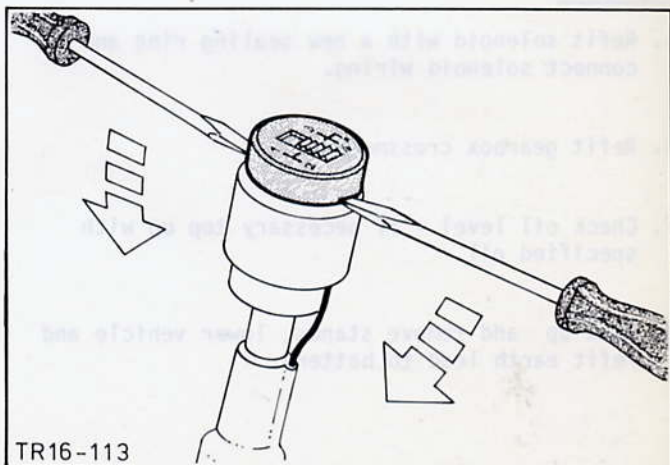

Fig.14. Remove gear lever knob.
2. Remove gear lever knob, Fig.14. and disconnect wiring from overdrive control switch.